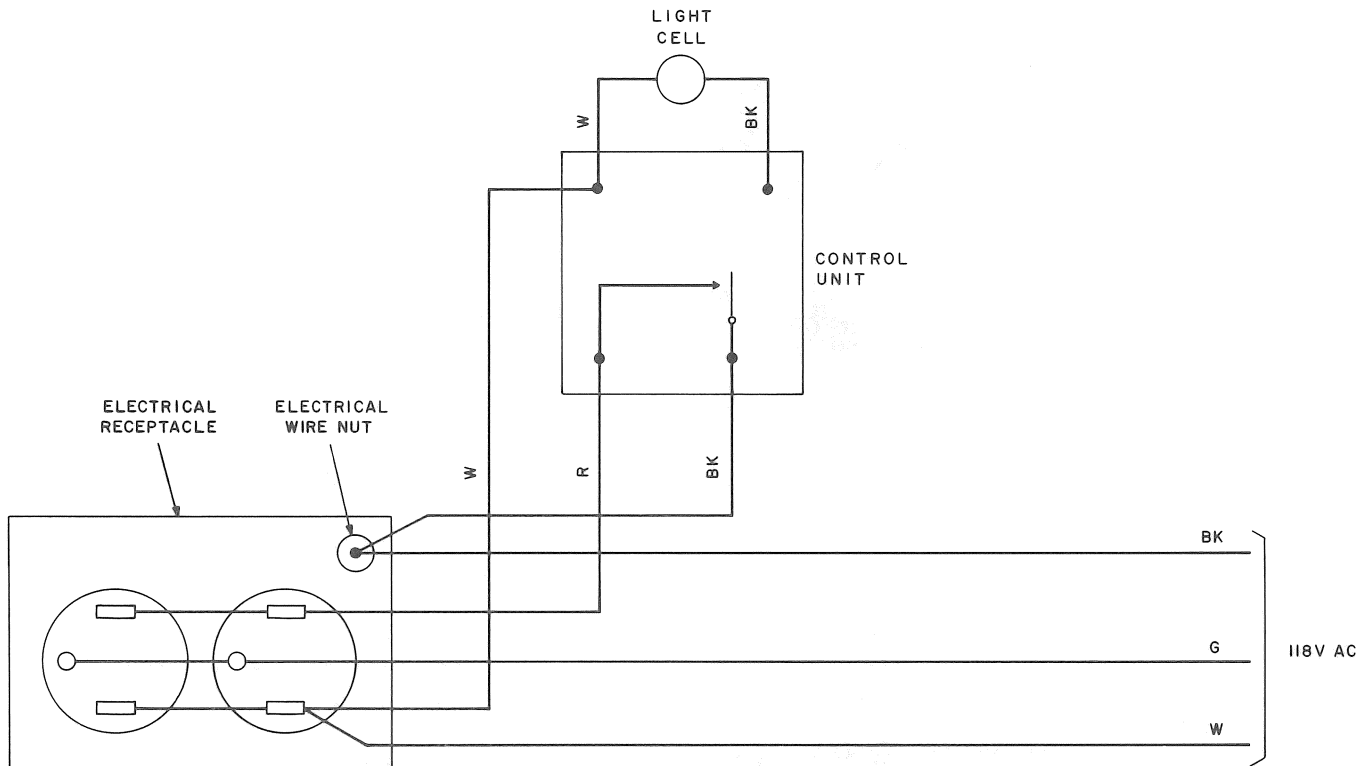

Fig. 17—Wiring Diagram of KS-19261, List 3 Light Control Unit
- (e) Connect control unit wires to electrical receptacle as shown in Fig. 17.
4.17 Connect wires of control unit to electrical receptacle of prime mounting as shown in Fig. 17.
- (a) Remove electric wire nut (Fig. 17) from black wires. Connect black wire from ac power source to electrical receptacle on terminal opposite white wire.